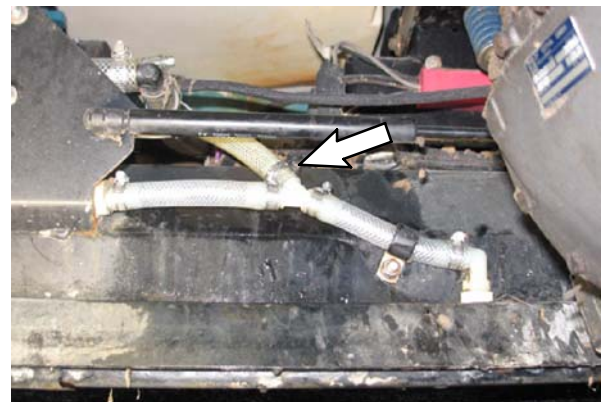

FIG. 6
8. Route the hose labeled DISP to the y-fitting and use a hose clamp to secure the hose to the y-fitting. Refer to Fig. 6.